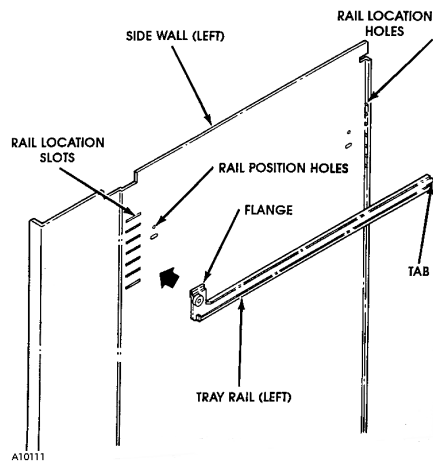

Figure 5.4. Changing Tray Spacing
6. Pull each rail forward to disengage its rear tab from the hole in the rear wall. See **Figure 5.4**.